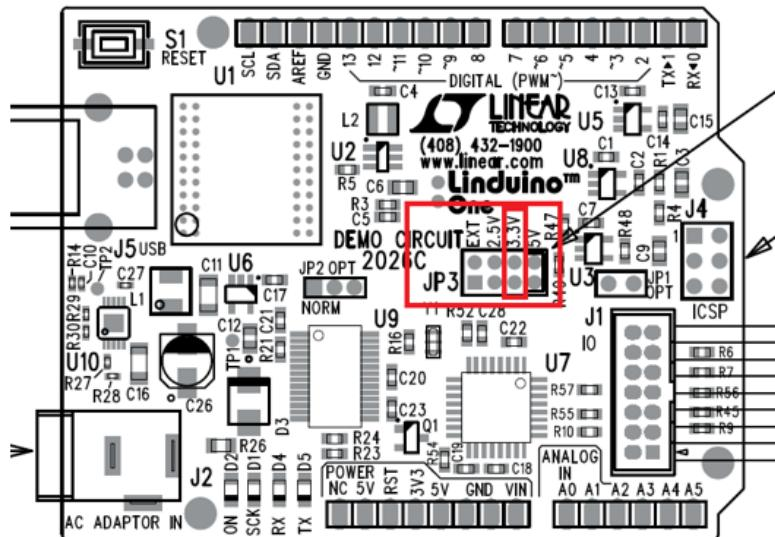

Figure 2: DC2026C Voltage Setting
1. Set the DC2026C JP3 link to 3.3V as shown in fig. 2.